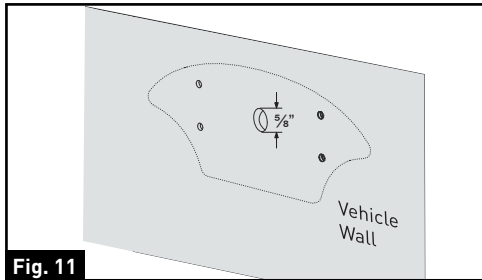

Fig. 11
2. Drill a 5/8" center hole on the vehicle wall using a 5/8" hole saw. (Fig. 11)